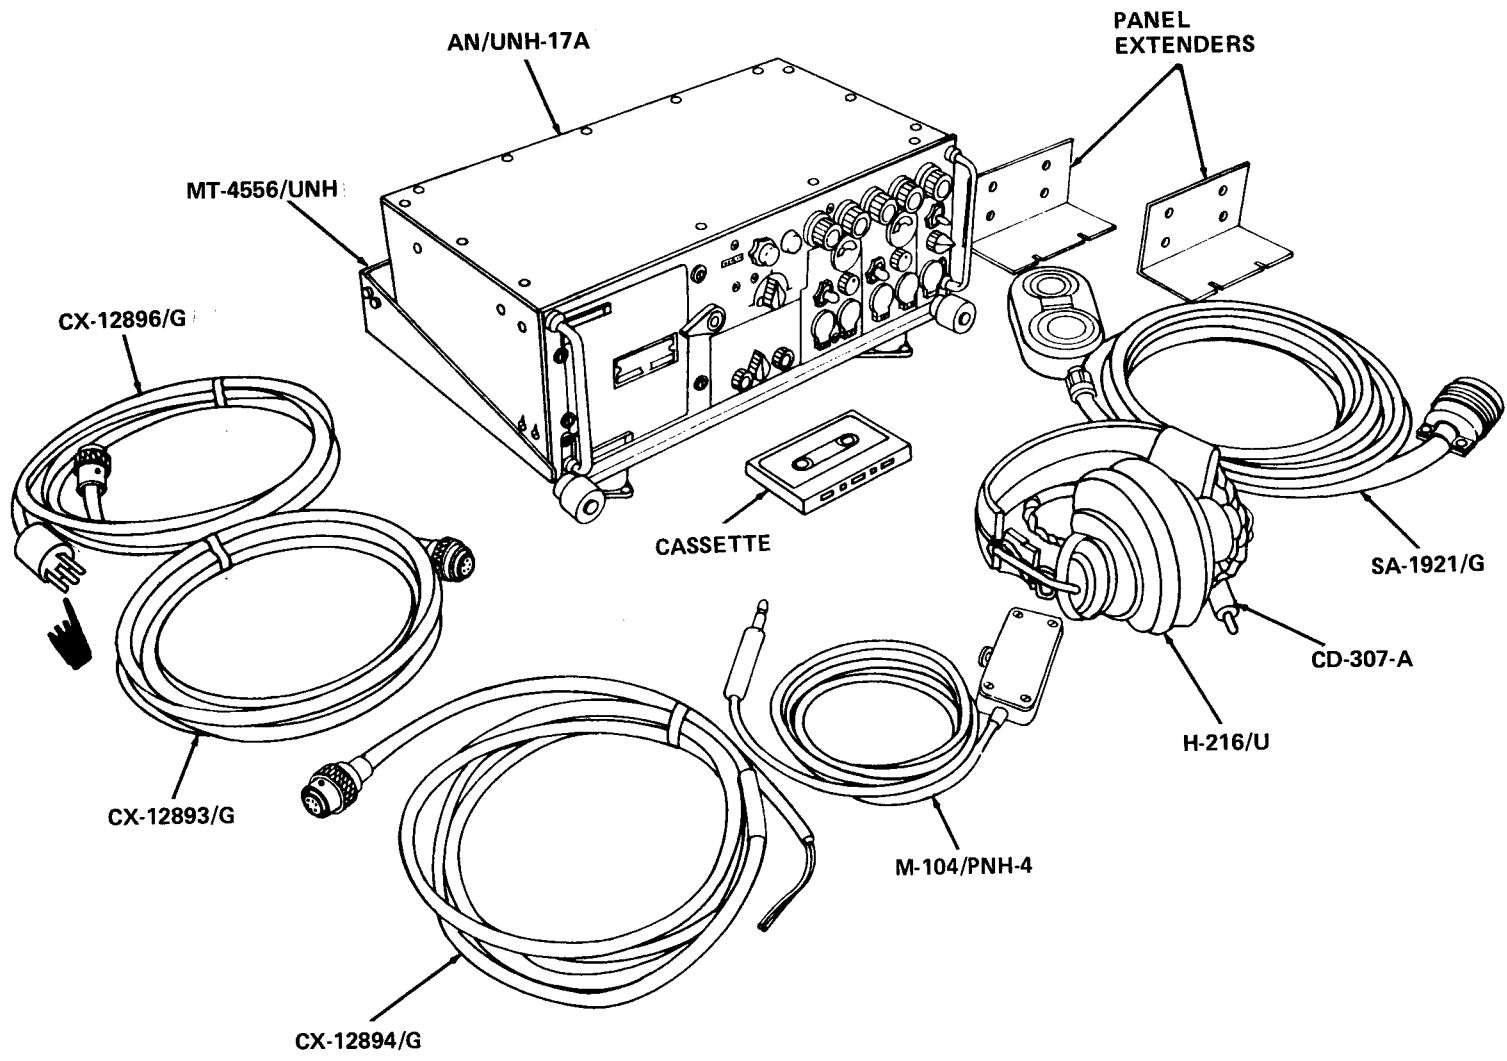

Figure 1-1. Sound Recorder-Reproducer Set AN/UNH-17A
a. Purpose. Recorder/Reproducer Set, Sound AN/UNH-17A is a magnetic tape recorder/reproducer (See Fig. 1-1.) designed to record and play back audio frequencies from 200 Hz to 4 KHz at 15/16 IPS and 200 Hz to 8 KHz at 1-7/8 IPS. Signal data source may be operator cements from a microphone or signals from a radio receiver. The signal may be monitored on headphones or external equipment.
a. System Components. The AN/UNH-17A includes the items shown in Figure 1-1. and listed in Table 1-1. The basic recorder/reproducer consists of the transport, self contained electronics and power supply, with a common case.
(1) Secured to a vehicle or aircraft by means of a MT-4556/UNH mounting base (Figure 1-1.) and powered by the vehicle/aircraft battery.